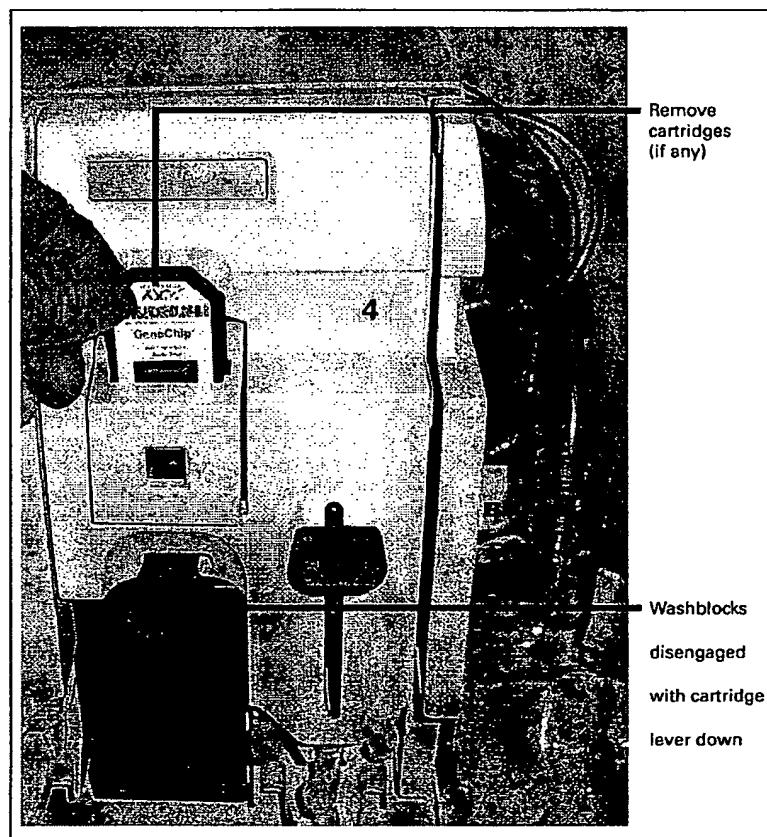

Figure 7.1
1. Disengage the washblock for each module by pressing down on the cartridge lever. Remove any probe array cartridge (Figure 7.1).